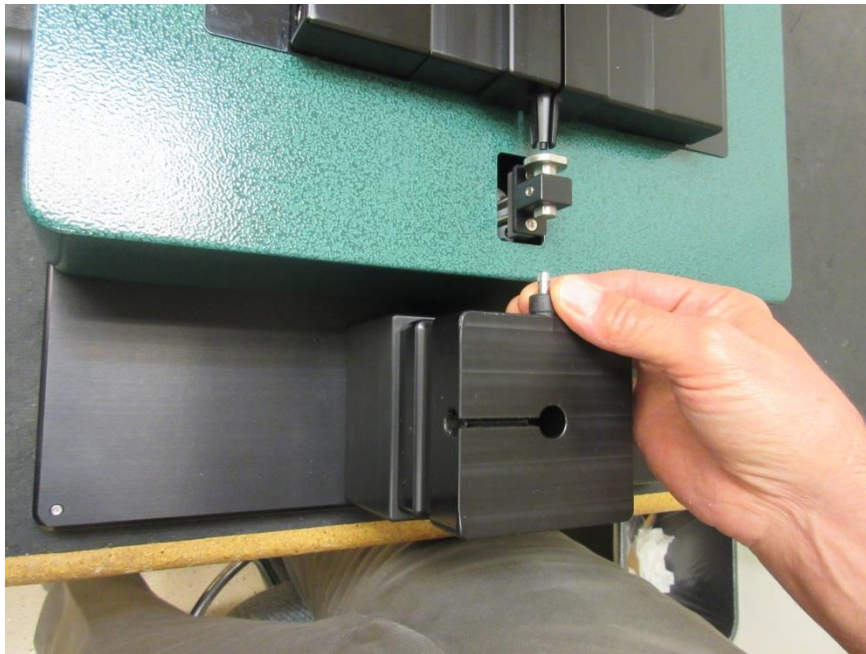

Figure 15: Seating the fitting into the nest
- Lock the fitting into the nest, ensuring the fitting is properly seated. (Figure 15)